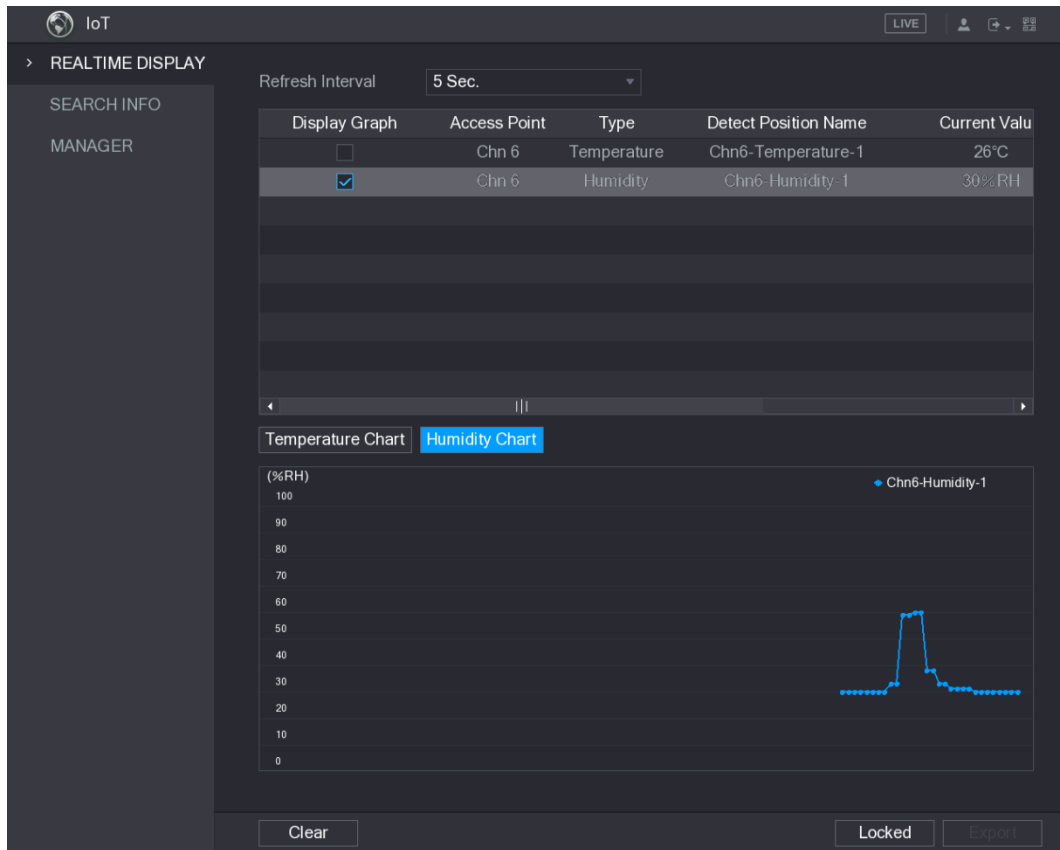

Figure 5-177
**Step 4** On the **Realtime Display** interface, click the **Humidity** tab. See Figure 5-177.